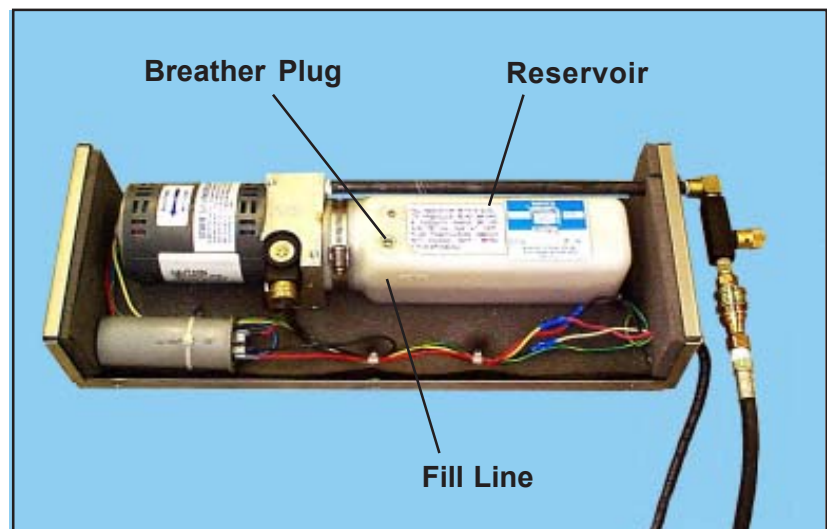

Figure 60. Reservoir, Breather Plug and Fill Line
5. Pack paper towels or shop rags around the reservoir to absorb any spillage (Figure 60).
7. Observe the fill line on the side of the reservoir (Figure 60) and, with a small funnel, fill the reservoir to the fill line with the specified hydraulic fluid. **Note:** Try to pour the fluid into the reservoir slowly and evenly to avoid introducing air bubbles into the fluid. **Note:** If the fluid level is at or close to the fill line, the reservoir does not require filling. Replace the breather plug and proceed to *Step 14*.